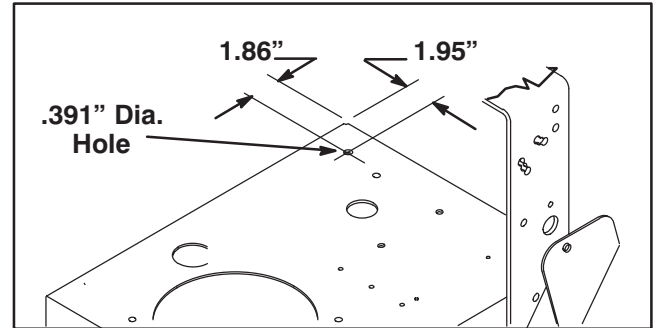

Figure 2
5. Using dimensions shown in fig. 2, locate, mark and drill a .391" dia. hole in frame.
7. Remove capscrew and locknut securing front of L.H. Support Bracket to frame (Fig. 2).